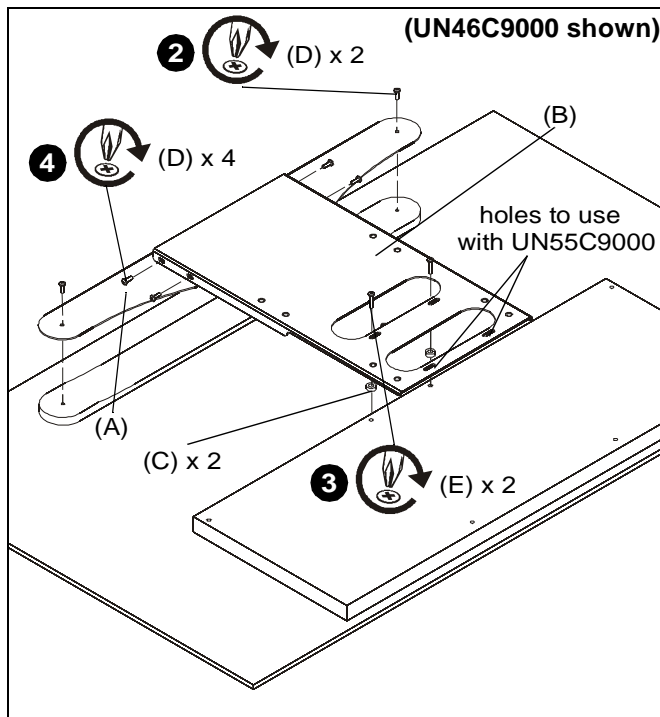

Figure 1
2. Loosely attach upper adapter bracket (A) to display using two M4x12mm Phillips pan machine screws (D). (See Figure 1)
3. Attach lower adapter bracket (B) to display using two M4x20mm Phillips pan machine screws (E) and two spacers (C). (See Figure 1)
4. Attach upper adapter bracket (A) to lower adapter bracket (B) using four M4x12mm Phillips pan machine screws (D). (See Figure 1)